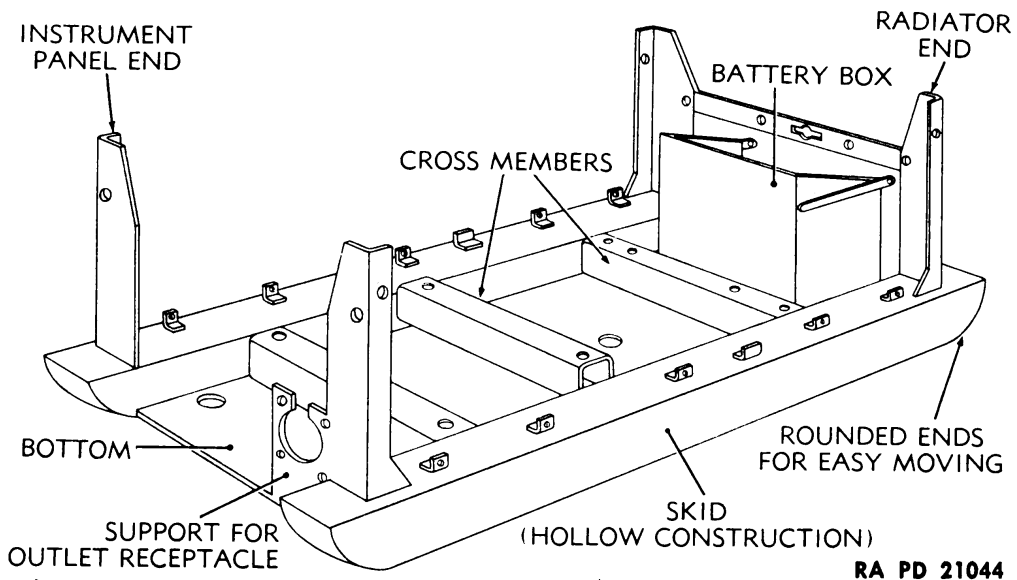

Figure 4 – Frame Assembly
c. The major units are the gasoline engine, the main generator which is coupled to it, and the instrument panel. These are bolted to a steel frame or skid assembly (fig. 4) and are completely covered by a sheet metal housing or canopy.